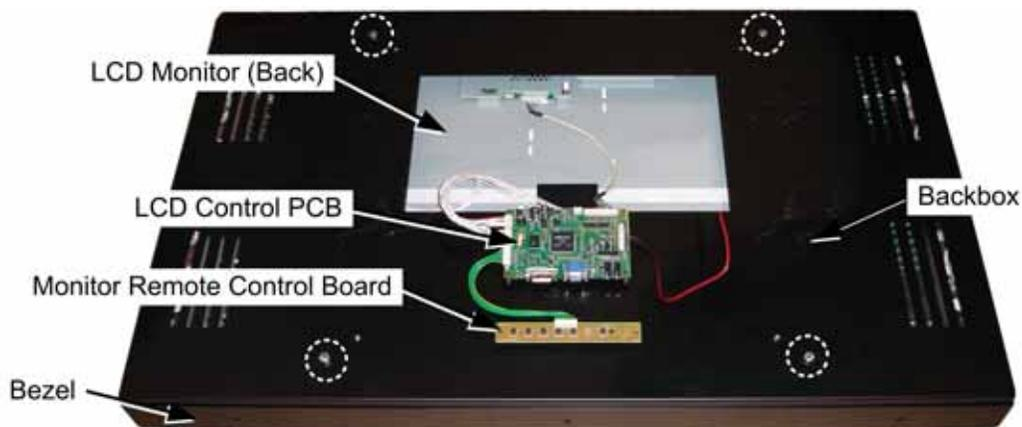
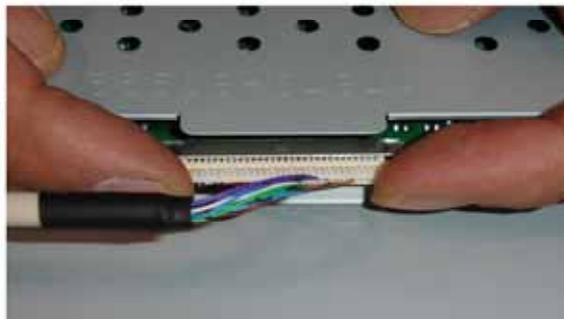

Figure 30. Monitor and Backbox Components (Deluxe)
Figure 31. Connecting the LCD Control PCB Harness
- Refer to Figure 30 for monitor assembly components. Carefully disconnect the three wire harnesses that connect the LCD panel to the LCD Control PCB on the back of the assembly.
- Remove the seven (7) screws that secure the bezel in place around the front of the monitor.
- Remove the four (4) bolts from the back of the backbox (shown by the circles in Figure 30) and lift off the backbox with the attached LCD Control PCB.
- Reverse these steps to install the new LCD monitor. Read the caution below and refer to Figure 31 to avoid breaking the LCD Control PCB connector.
CAUTION: It is very EASY TO BREAK the plastic housing around the connector on the LCD Control PCB. Align the connector carefully, and gently push straight in with your thumbs on both sides. DO NOT FORCE. Pressing too hard can break the plastic. See Figure 31 for the correct way to connect the harness.
3. Refer to Figure 30 to identify monitor assembly components. Carefully disconnect all of the cables and wire harnesses from the Control PCB. (Depending on the PCB model, you may need to remove the PCB from the backbox before you can disconnect the power harness.)
4. Remove the four (4) screws that secure the PCB to the monitor backbox and remove the PCB.
5. Reverse these steps to install the new PCB. Read the caution below and refer to Figure 31 to avoid breaking the LCD Control PCB connector.
CAUTION: It is very **EASY TO BREAK** the plastic housing around the connector on the LCD Control PCB. Align the connector carefully, and gently push straight in with your thumbs on both sides. **DO NOT FORCE.** Pressing too hard can break the plastic. See Figure 31 for the correct way to connect the harness.
Perform the steps under *Monitor Replacement (Standard)*, above, but remove and replace only the LCD Control PCB from the monitor assembly. Be sure to see Figure 31 on page 50 for the correct way to connect the Control PCB Harness to avoid breaking the connector.